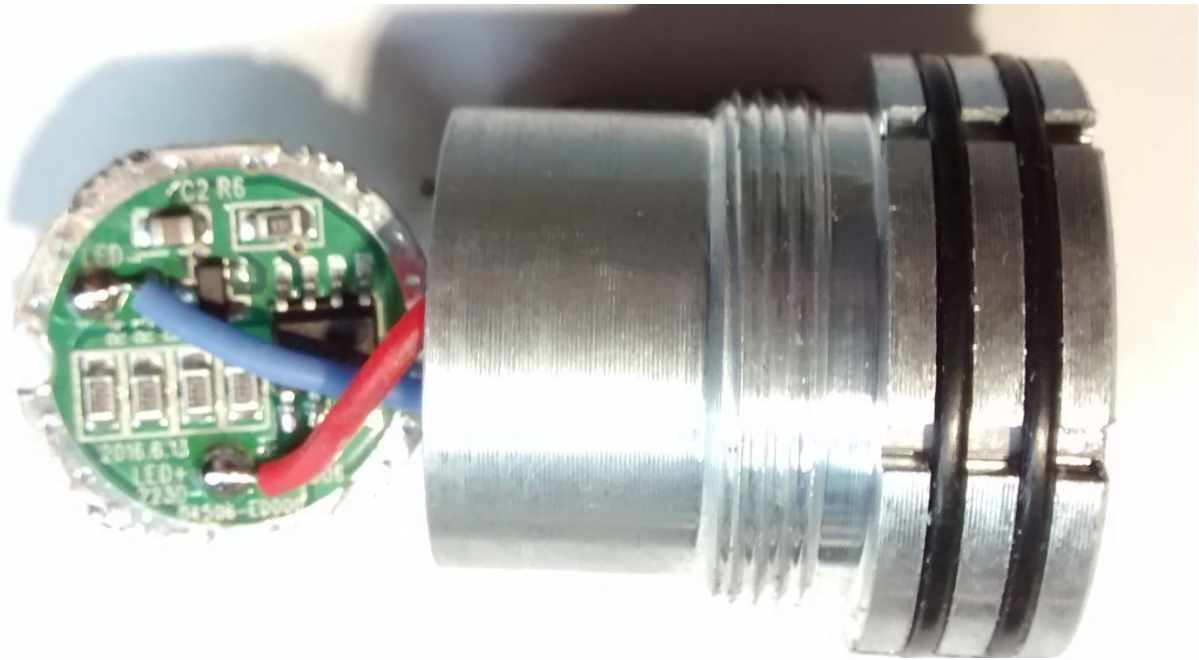
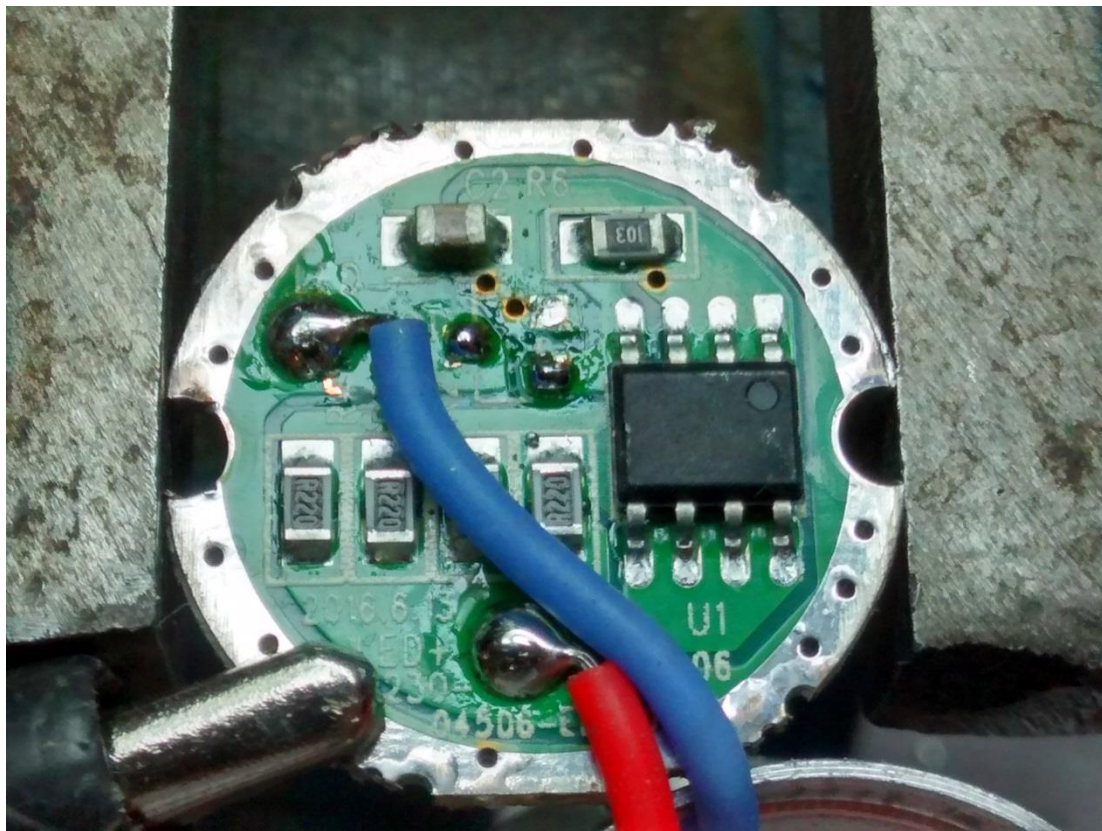
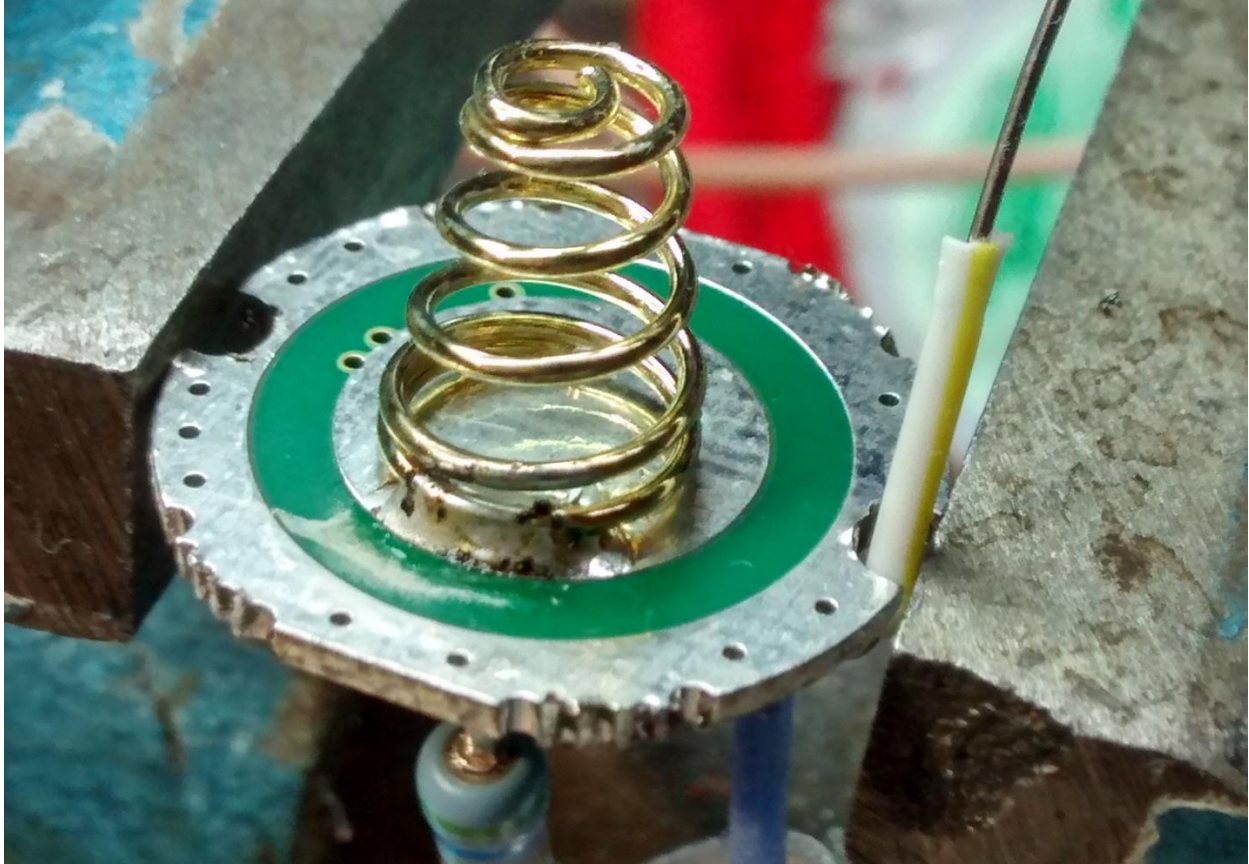

Figure 4 PCB Removed from LED Assembly
Figure 5 PCB with Surface Mount Part Removed
Figure 8 Bottom of PCB showing spring to Be removed
- Pry out the PCB from the back end of the LED assembly as shown in figure 4.
-Remove the 3 leaded SOT-523 surface mount part shown near the middle of the PCB in figure 4 and add solder to 2 of the now empty pads as shown in figure 5.
The PCB can now be reinstalled in the base of the LED assembly shown in figure 4. Once the PCB is re-installed I removed the spring contact that was soldered to the bottom in figure 8. I then attached 2 wires to the bottom that will be used for the 5 Volt power supply feed.